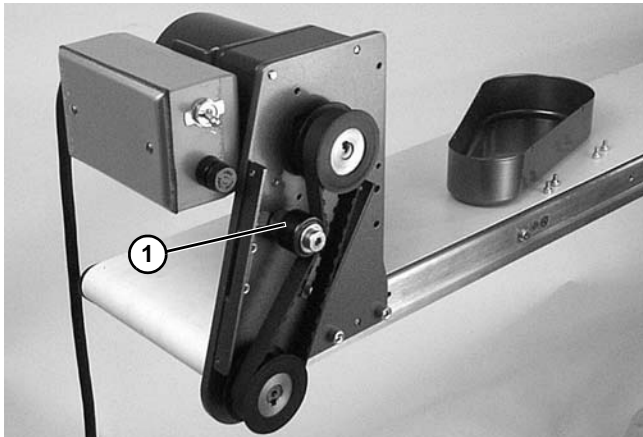

Figure 28
2. Loosen tensioner (**Figure 28, item 1**).